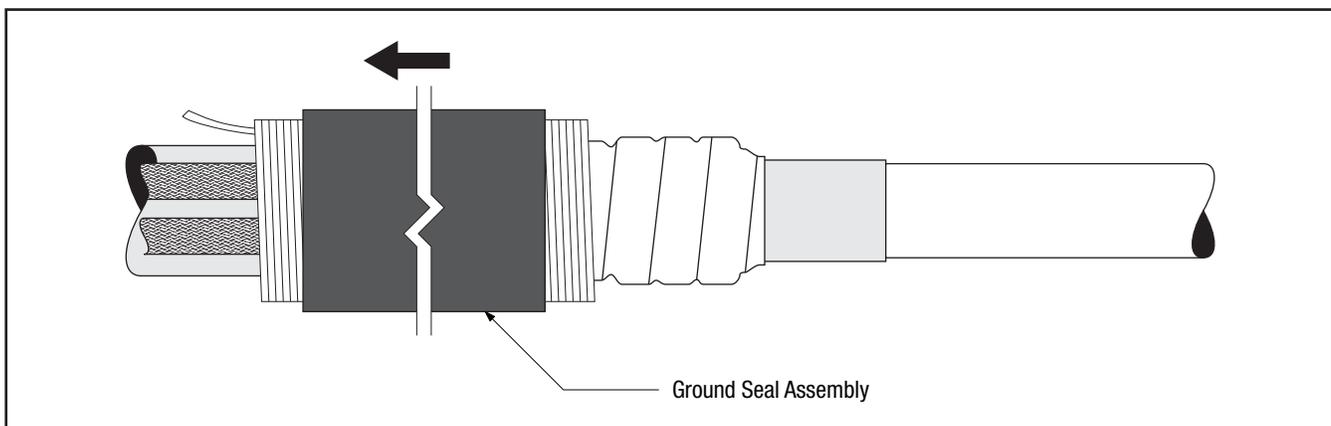

Figure 10
- 4.1 Slide the ground seal assembly onto the cable jacket, loose core end first. (Figure 10)